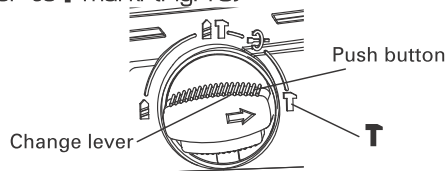

Fig.10
■ This rotary hammer can be set to hammering only mode by pressing the push button and turning the change lever to **T** mark. (Fig. 10)
-Turn the change lever to **T** mark. (Fig. 10)